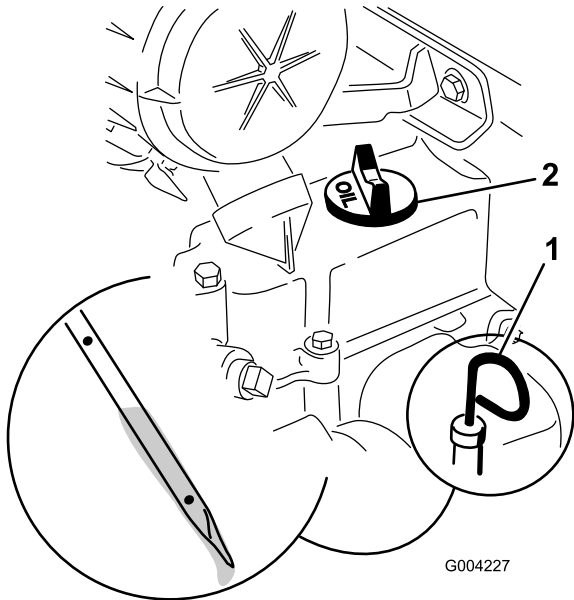

Figure 32
4. Clean the area around the oil dipstick (Figure 32).
5. Pull out the dipstick and wipe the metal end clean (Figure 32).
6. Slide the dipstick fully into the dipstick tube (Figure 32).
8. If the oil level is low (below the bottom hole), clean around the oil-fill cap and remove the cap (Figure 32).
6. Remove the fill cap (Figure 32) and slowly pour approximately 80% of the specified amount of oil in through the valve cover.
9. Remove the fill cap (Figure 32) and slowly pour approximately 80% of the specified amount of oil in through the valve cover.